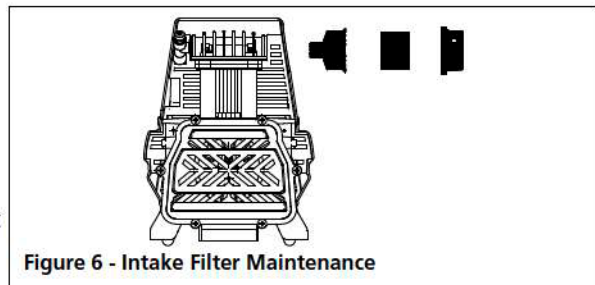

Figure 6 - Intake Filter Maintenance
Removal, Inspection and Replacement (Figure 6). The intake filter element should be removed and checked periodically. A clogged intake filter can decrease compressor performance and cause the compressor to overheat.
4. Reinstall filter, cover, and bolt. Thread the intake air filter into the threaded opening in the side of the compressor head as illustrated in Figure 6 before use.